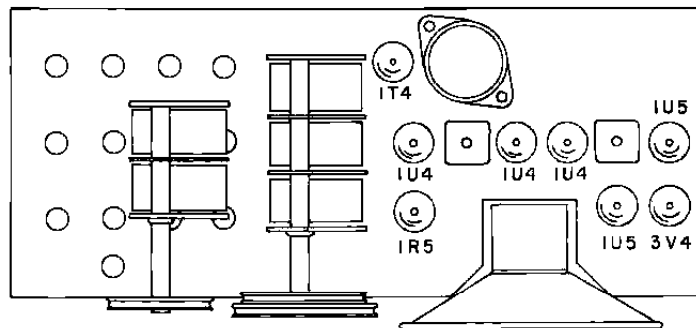

FIG. 4 TUBE LOCATION
**TUBE REPLACEMENT** - The tube types and their relative location in the receiver are shown in Fig. 4. When installing a replacement tube, line up the seven small pins with the socket holes and then push straight down on the tube until the base of the tube rests on the socket. Handle all tubes with care as they are fragile and will not withstand mechanical abuse.